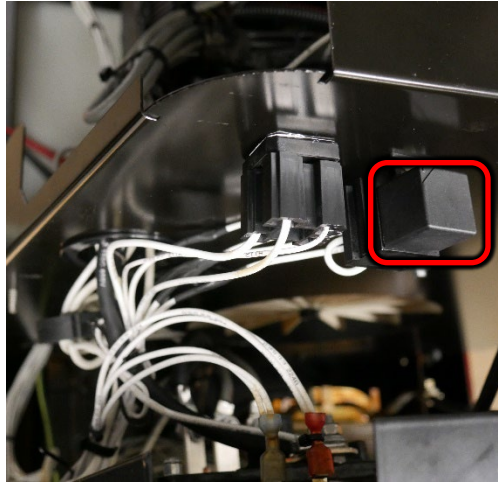

Figure F.2
- A.2. Label and disconnect CR2, refer to Figure F.2.